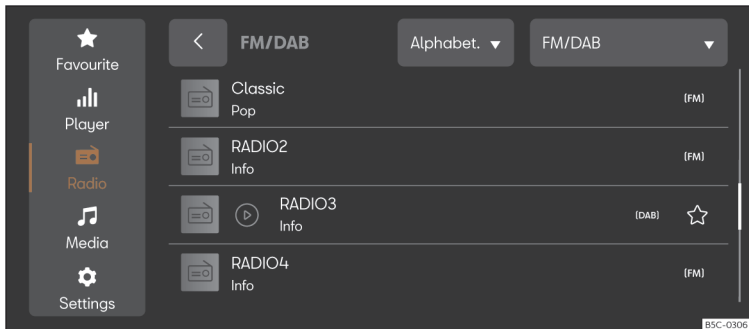

Fig. 156 Schematic representation: Radio view.
- Press **MENU** > >>> **Fig. 156**.